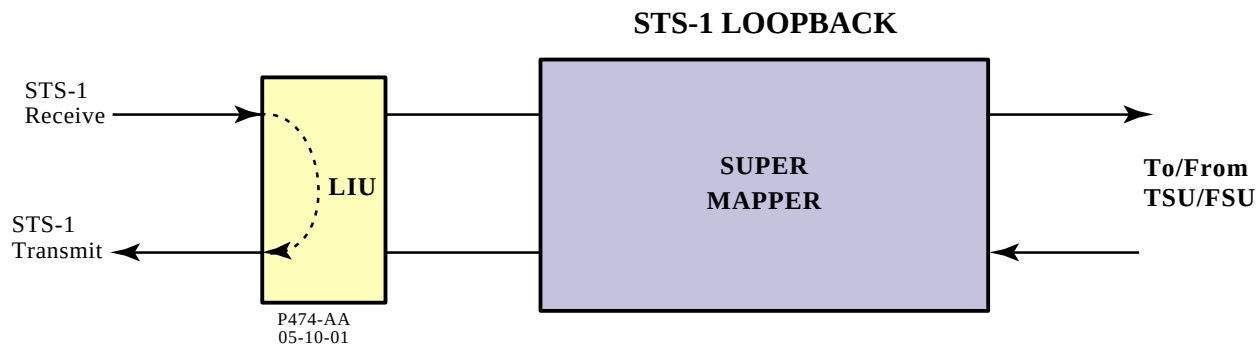

**Figure 10. STS-1 Loopback**
37. Put the port in loopback. Double-click *Switch*, *Switch name*, *Cards*, desired *IOM*, *Ports*, desired port, and *Ports*. Right-click desired port, select *Operate Loopback*. Make changes if necessary and then click *Ok*. An STS-1 loopback is illustrated in Figure 10.